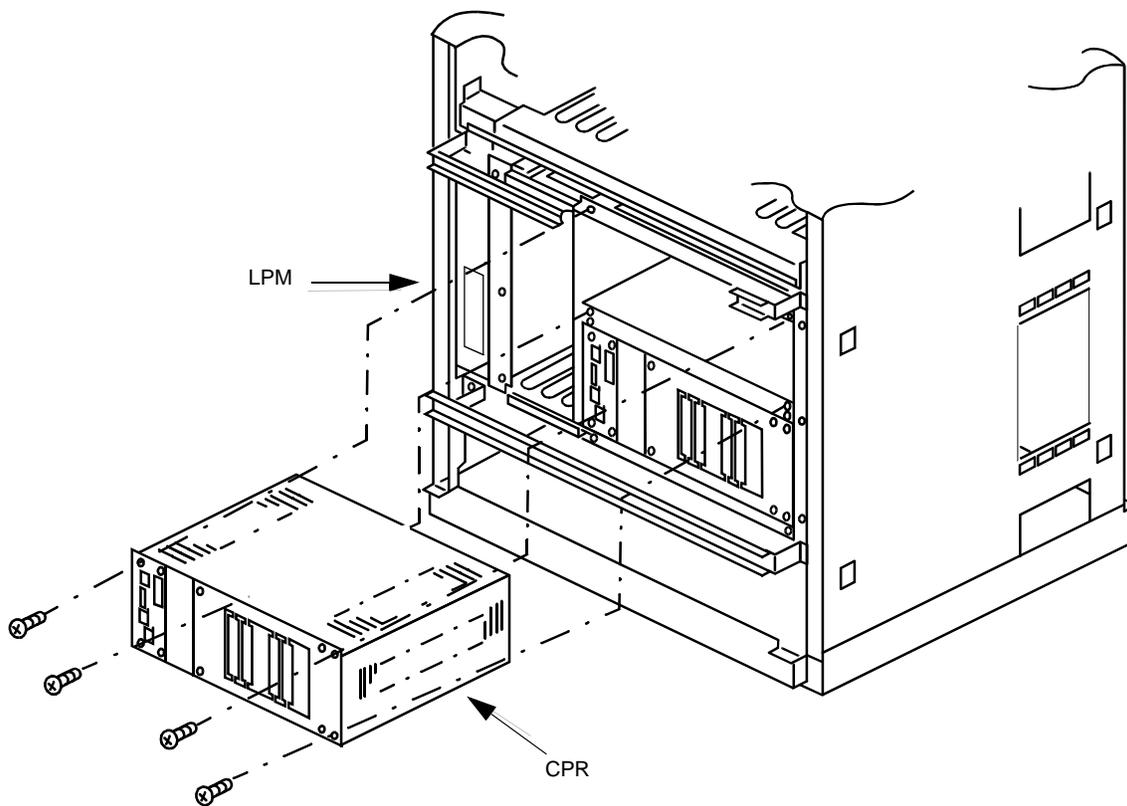

Figure 009-7 Accommodating New CPR into LPM
4. After turning "ON" the MBR key on the DSP of the new CPR, insert the new CPR into the LPM. Then, fasten the four screws. (Refer to Figure 009-7.)